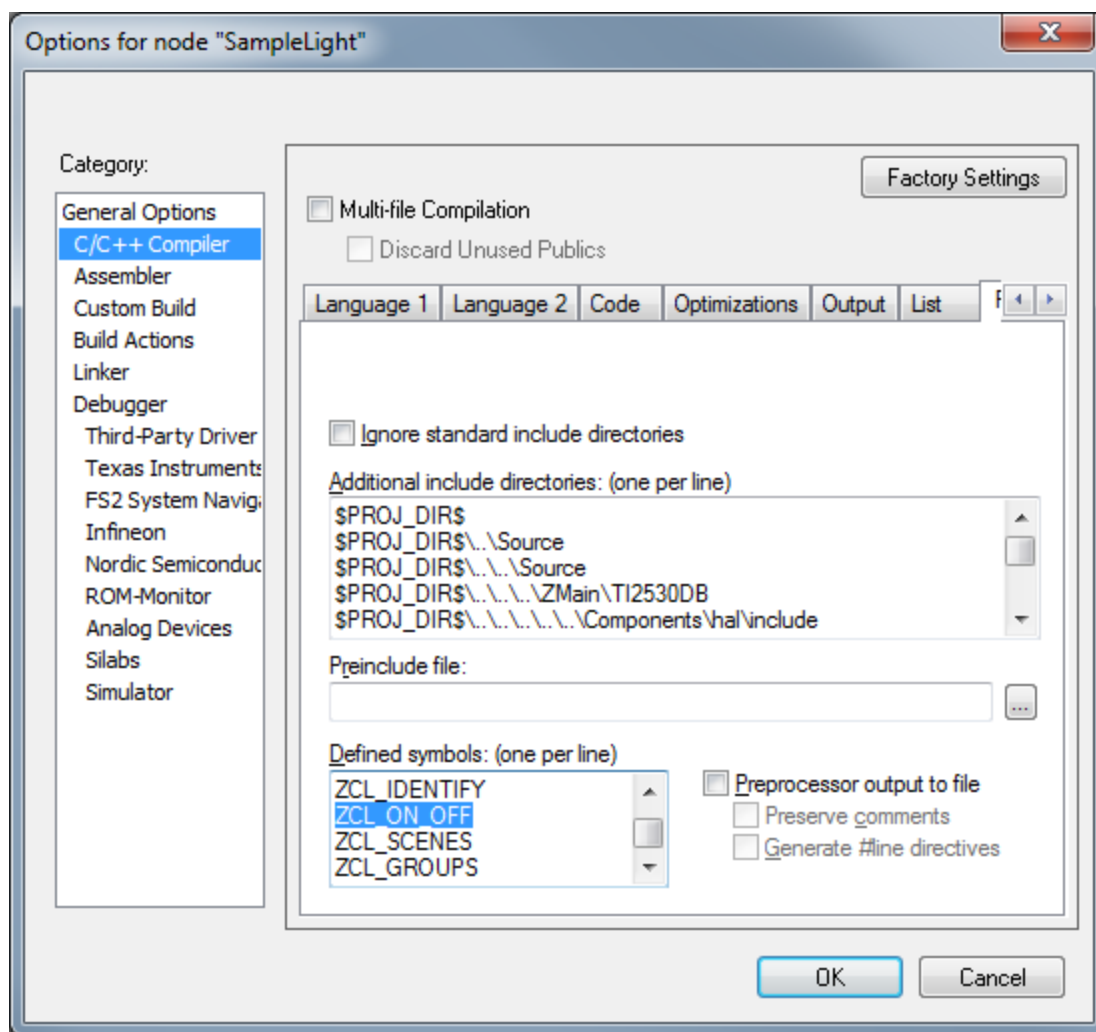

Figure 11: IAR Project Compile option to enable clusters
Following table lists other mandatory clusters for each sample application. User may enable specific clusters in IAR options (**Figure 11**). Full list is defined in f8wZCL.cfg.
- Each sample application requires different set of clusters. By default, required application clusters are enabled in IAR project options. To enable specific clusters, consult f8wZCL.cfg file and enable it in IAR compiler options (**Figure 11**)